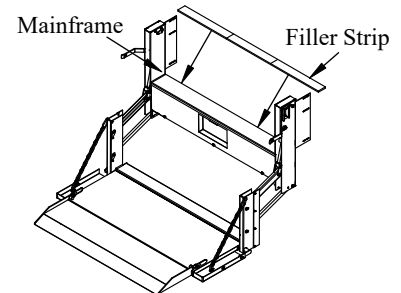

Figure 7: Filler strip location.
3. **Weld** the filler strip to the top corner of the liftgate with the weld side facing down (Figure 7).
4. **Apply** the remaining vinyl tape the the under side of the filler strip (Figure 7).